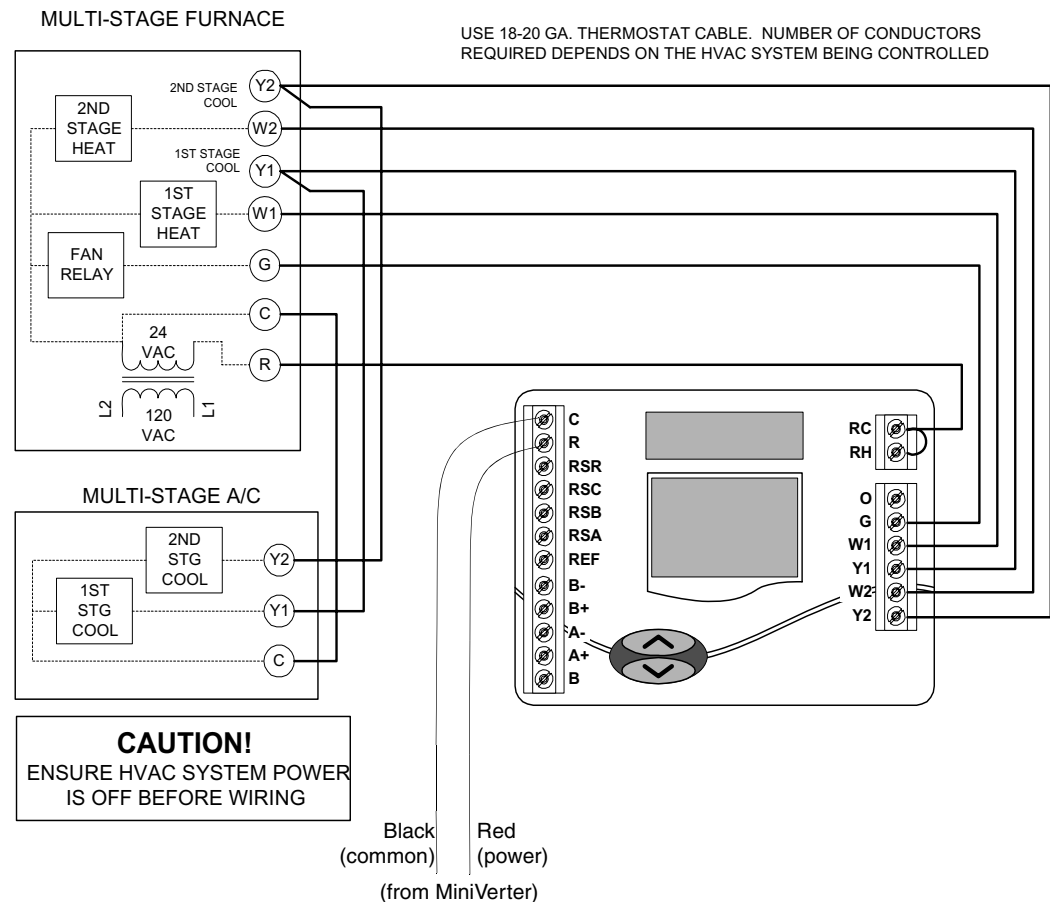
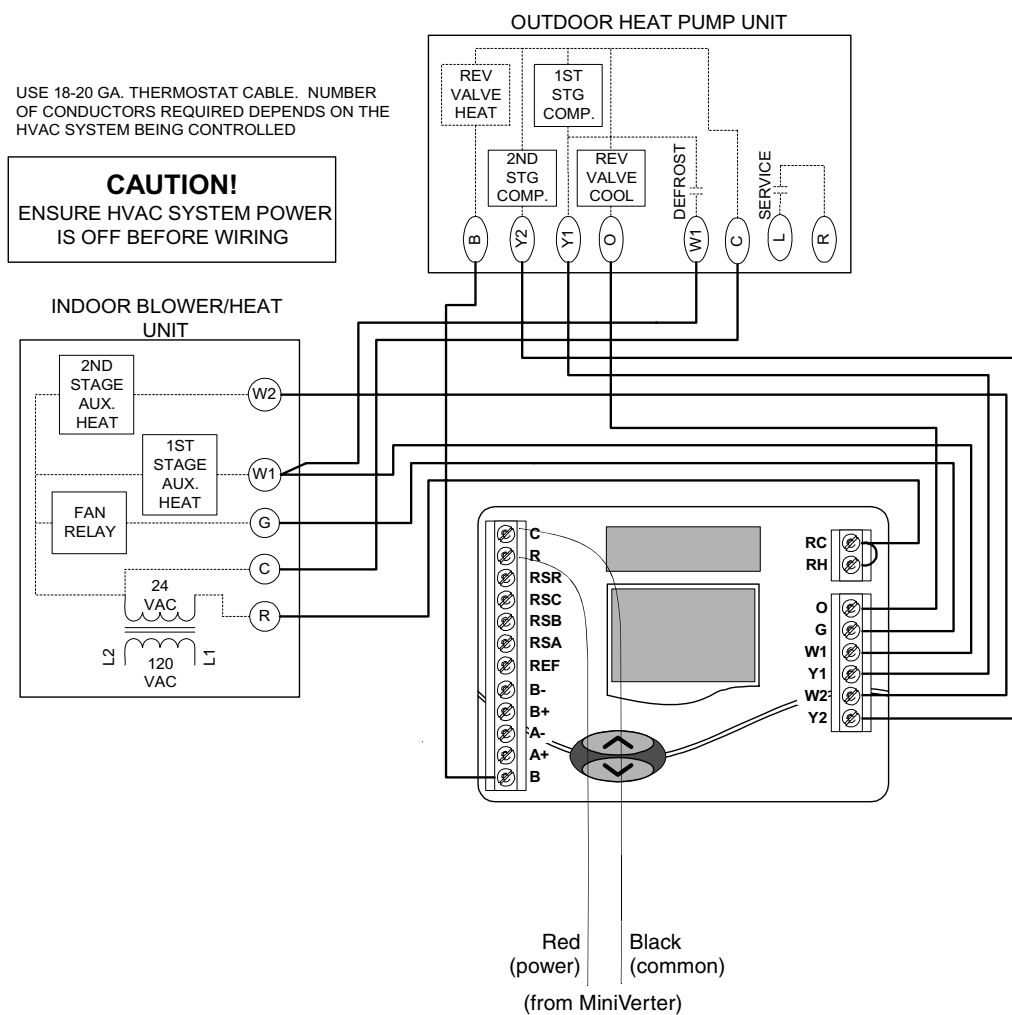

FIG. 14 Typical heat/cool wiring schematic
FIG. 15 Typical heat pump wiring schematic
2. The following figures (FIG. 14, FIG. 15) show wiring diagrams for several different HVAC equipment types. Use these diagrams as a reference only. Use color coding where possible.
- a. FIG. 14 shows a typical heat/cool wiring schematic:
b. FIG. 15 shows a typical heat/cool wiring schematic: